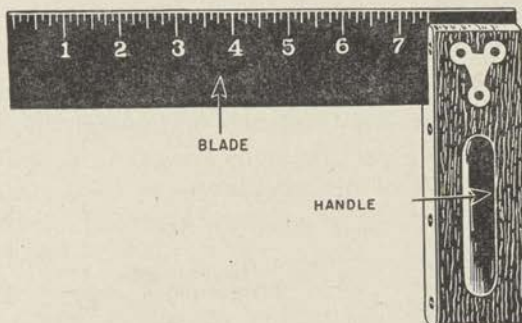

FIGURE 12.—Try square.
c. *Try square* (fig. 12).—Used for laying out lines at right angles to an edge or surface and for testing squareness. The usual try square has a blued-steel blade, graduated in inches and eighths, and a brass-